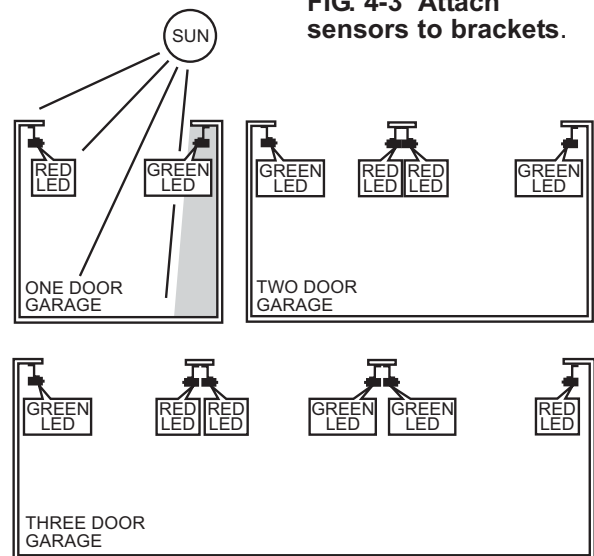

FIG. 4-4 Safe-T-Beam® source and sensor locations.
- Determine which side of garage receives most direct sunlight (**Fig. 4-4**).
- Red LED should always be on sunny side whenever possible (**Fig. 4-4**).
- Place source and sensor modules on adjacent doors facing in opposite directions (**Fig. 4-4**).